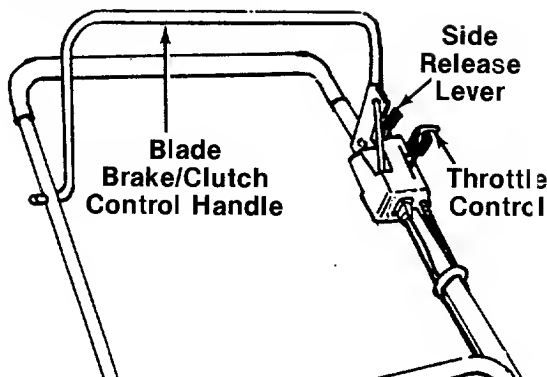

FIGURE 11.
The throttle is located on the right side of handle. It controls engine speed. See figure 11.
To engage the blade, pull the side release lever away from the unit. See figure 11. Pull the clutch control handle against the upper handle. Release side lever.
2. To engage the blade, pull the side release lever away from the unit. Pull the blade brake/clutch control handle down against the upper handle. Release the side lever. See figure 11.